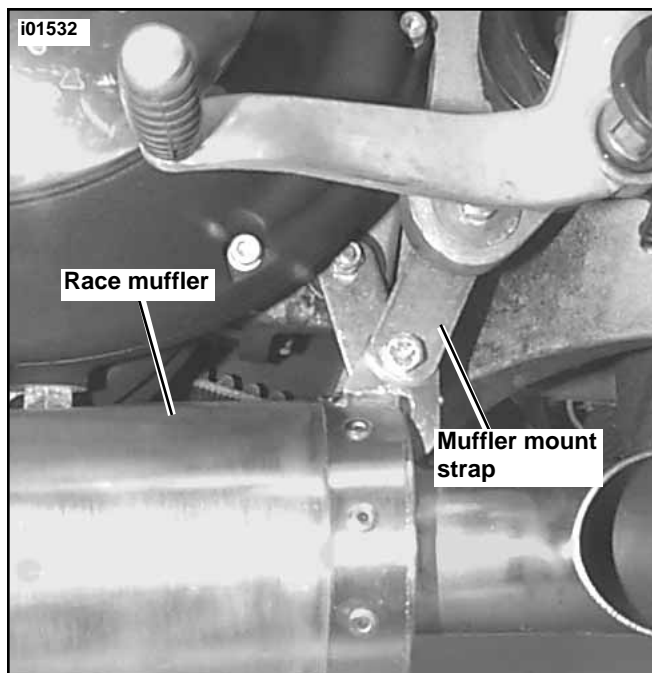

Figure 7. Race Muffler
3. See Figure 7. Position muffler and install rear mounting support in rear muffler straps lockwashers, washers and the bolts from the kit Tighten to 17-19 ft-lbs (23-25.8 Nm).